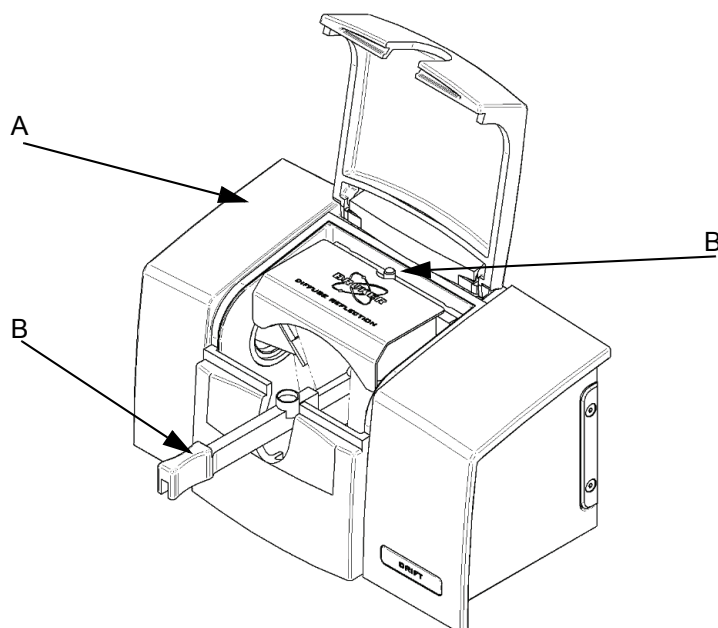

Figure 5.1: ALPHA-R sampling module (A528/D)
- Check signal intensity (A).
- Rotate the height adjustment screw (figure 5.1) until there is sufficient signal on the *Check Signal* tab.
4. Position the height adjustment screw (figure 5.1) such that the signal intensity, which can be achieved as maximum, is displayed. The maximum signal intensity depends very much on the sample properties (grain size, color).